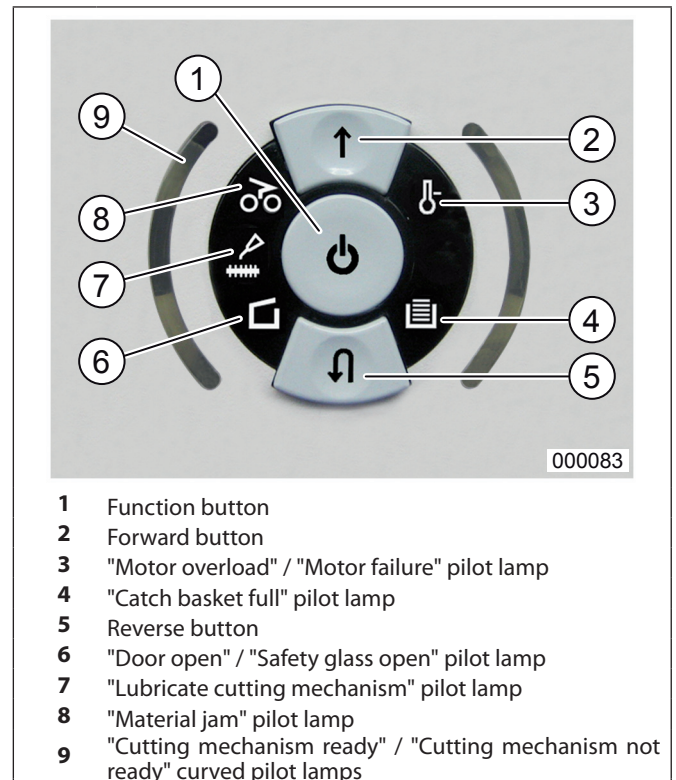

Fig. 1 "i-control" operator unit
#### ① = Function button (Fig. 1/1)
#### ② = Forward button (Fig. 1/2)
#### ③ = "Motor overload" / "Motor failure" pilot lamp (Fig. 1/3)
#### ④ = "Catch basket full" pilot lamp (Fig. 1/4)
#### ⑤ = Reverse button (Fig. 1/5)
#### ⑥ = "Door open" / "Safety glass open" pilot lamp (Fig. 1/6)
⑦ = **"Lubricate cutting mechanism" pilot lamp (Fig. 1/7)**
⑧ = **"Material jam" pilot lamp (Fig. 1/8)**
⑨ = **"Cutting mechanism ready" / "Cutting mechanism not ready" curved pilot lamps (Fig. 1/9)**
Briefly press the function button (Fig. 1/1).
1. Briefly press the function button Fig. 1/1.
2. Briefly press the forward button Fig. 1/2.
3. Briefly press the forward button Fig. 1/2.